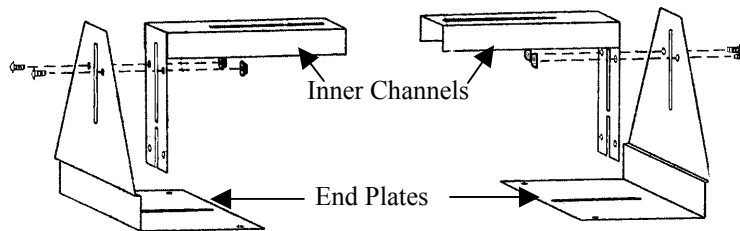

Figure 1. Secure Inner Channels
1. Using four #8-32 X 3/8" combination screws and #8-32 hex flange nuts, secure the inner channels together (see Figure 1).